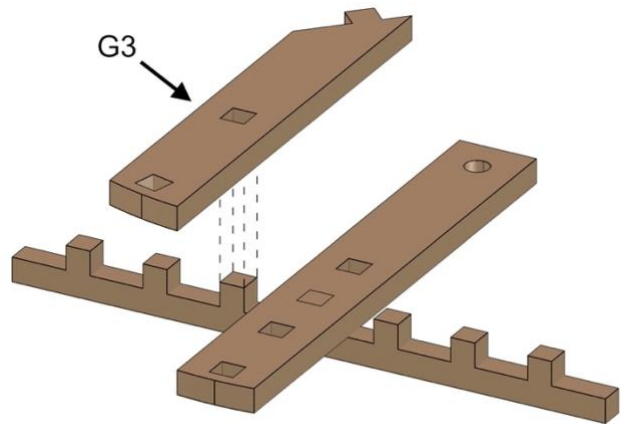

Fig. 34
- Align parts exactly as shown in *Fig. 34*.